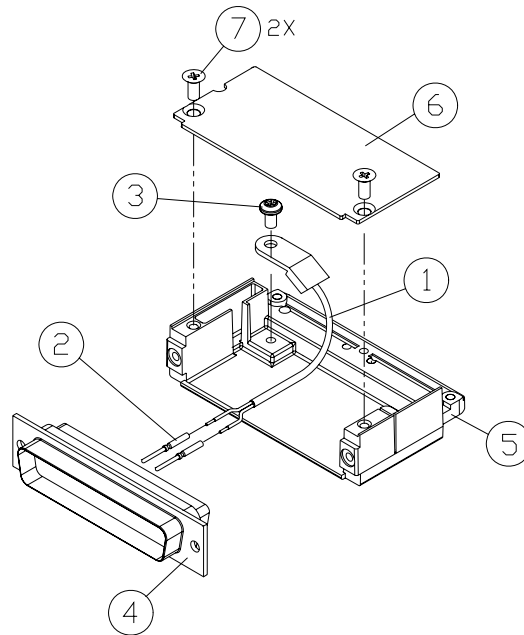

Figure 6-3. GEA 71 Backshell Thermocouple
1. Crimp pins (item 2) onto each of the thermocouples wires (item 1). Ensure that pre-stripped wire length is 1/8" prior to crimping.
2. Insert newly crimped pins and wires into the appropriate connector housing location (item 6).
3. Place thermocouple body (item 1) onto the backshell boss (item 5). Place the thermocouple as shown in Figure 6-3 (the wires exit towards the bottom of the backshell).
4. Fasten thermocouple tightly to backshell using the provided screw (item 6).
5. Fasten cover (item 6) to backshell using the provided screw (item 7).